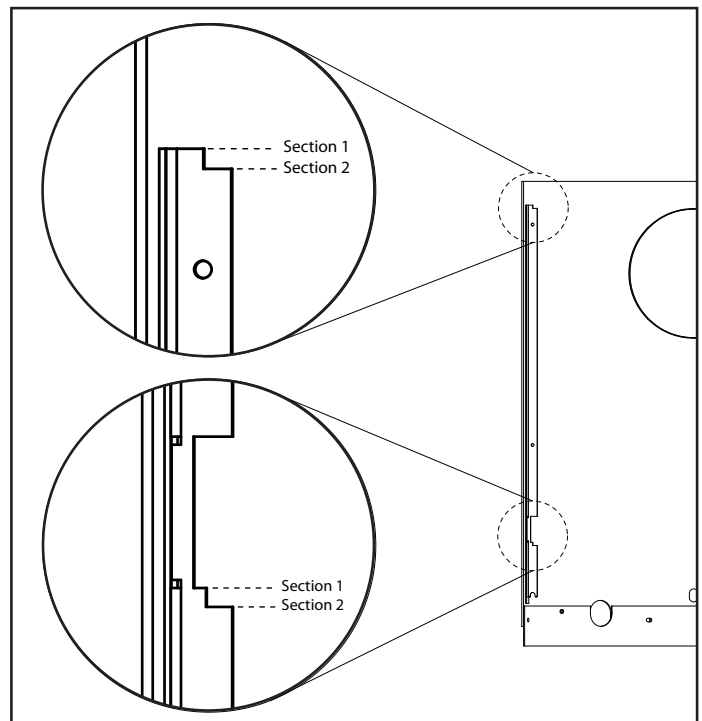

Figure 25: Chassis Mounting Slots
**Mounting:** There are two different sections in each mounting slot (see Figure 25). The door frame should fit relatively easily into section 1, it may be easier to mount one side first then the other. Once all hooks are engaged in their respective slots, push in one side of the door frame (top and bottom) until the hooks drop into the section 2; repeat this on the opposite side. This will firmly lock the door frame into position and close up any excessive gaps.